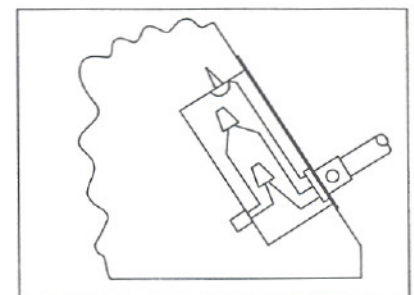

Figure 18
2. Bring the supply wires to the inside of the junction box. Firmly attach the ground connector to the green headed screw and connect the supply wires to the lead wires (see Figure 18) using the wire nuts provided in the fastener pack.